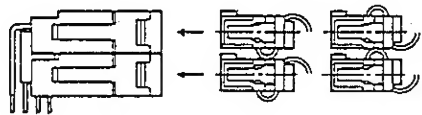

Figure 3.8-3
- Direction of socket for mating -- When mating the flat cable connectors (with strain relief), in order to minimize interference, make the turned back portions of the cable as small as possible and direct the turned back portions in the same direction as shown in Figure 3.8-3.